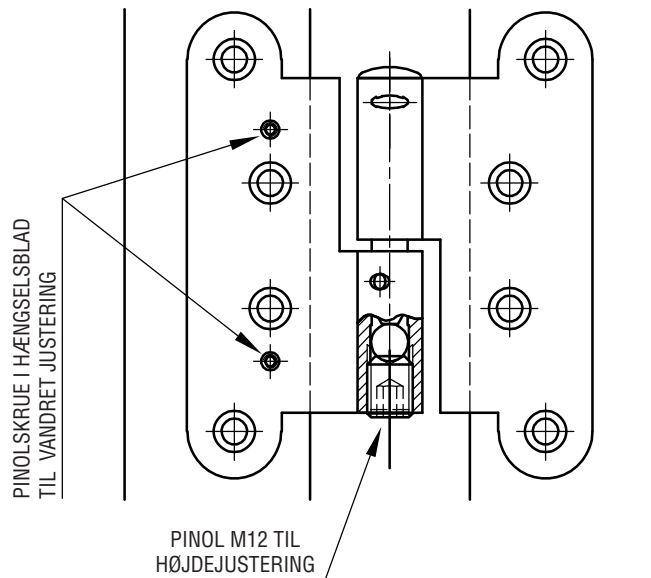

FIG. 2
5. HÆNGSLET MONTERES, SE FIG. 2.